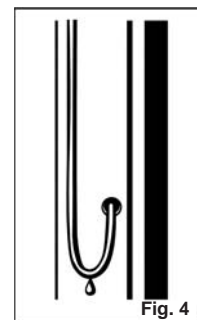

Fig. 4
7. To avoid ingress of moisture in the mast or brickwork, lay the cable (Fig. 4)